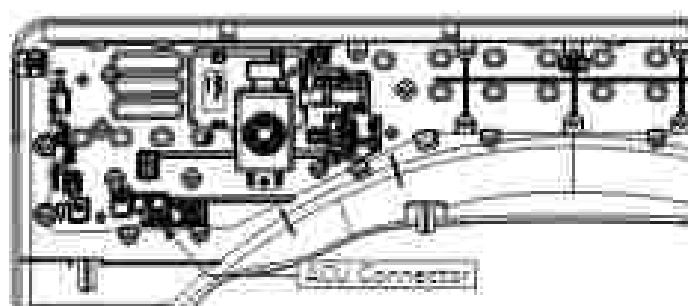

Figure 1 • Whirlpool Console HMI
5. Visually check that all HMI connectors are inserted all the way into the HMI. See Figures 1 & 2.